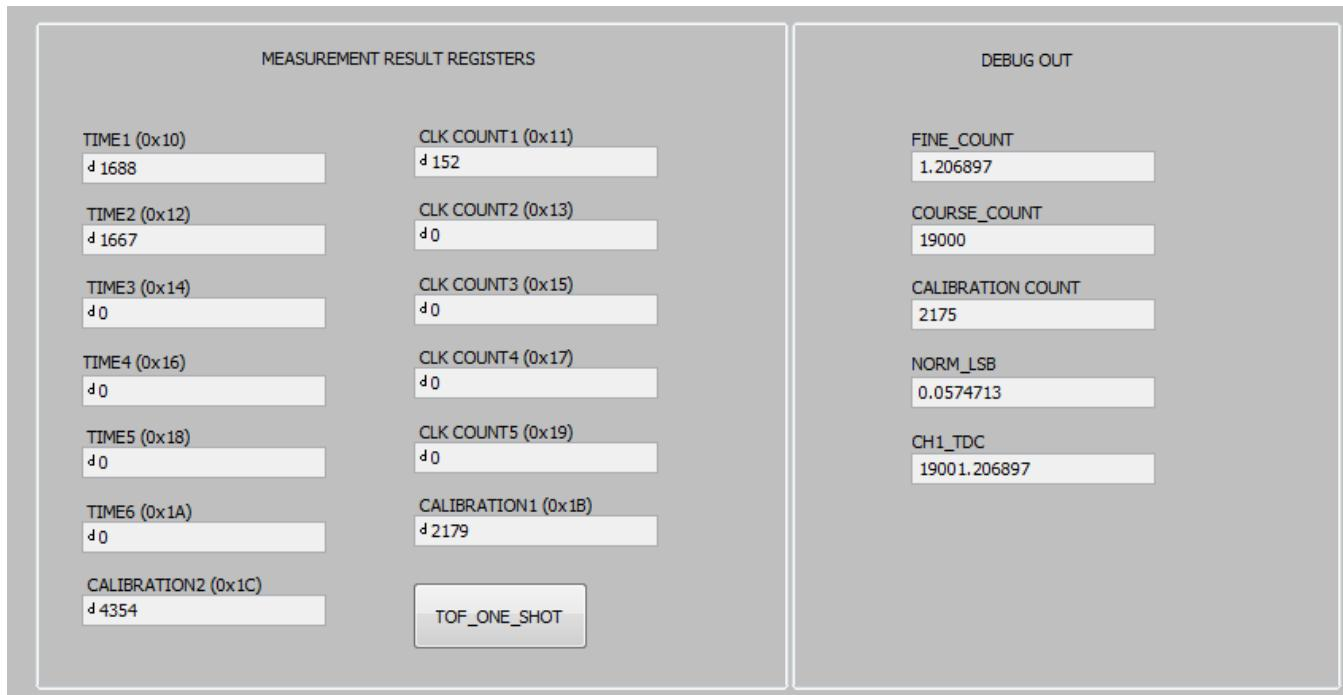

Figure 9. Measurement Results
- You should be able to see SIMILAR measurement results register values as shown in Figure 9 (assuming you follow the instructions as specified in Section 6.1).
(d) Use the values reported in the Measurement Result Registers (Figure 9) to validate the time-of-flight as ~19us (assuming you follow the instructions as specified in Section 6.1).